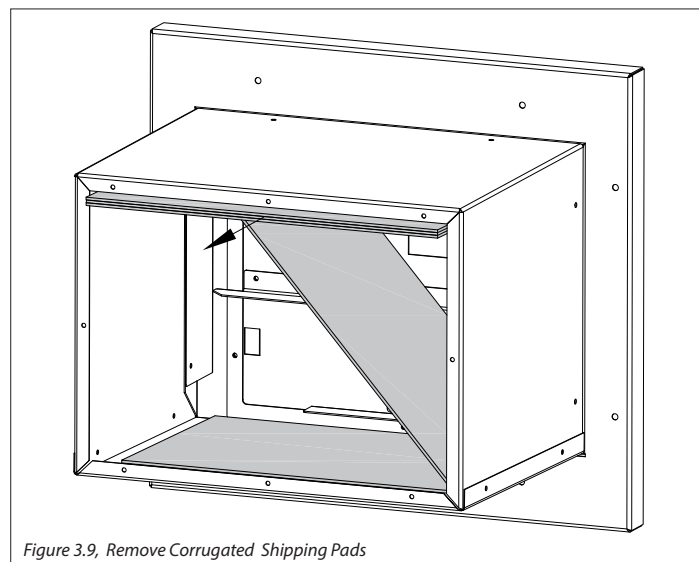

Figure 3.9, Remove Corrugated Shipping Pads
3. Remove the two corrugated shipping pads. See Figure 3.9.